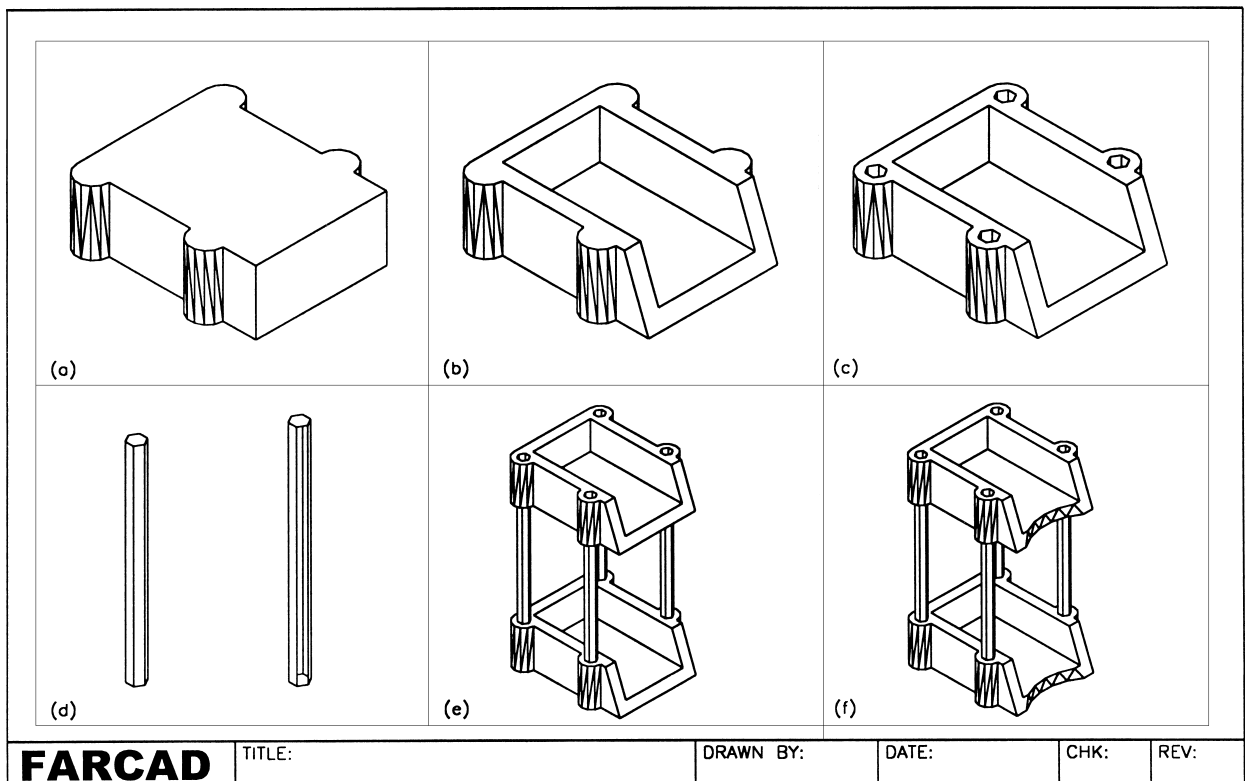

Figure 42.1 Creation of the assembled model.
- 1 Open your A3SOL template file with the MVLAY1 tab as normal and refer to Fig. 42.1